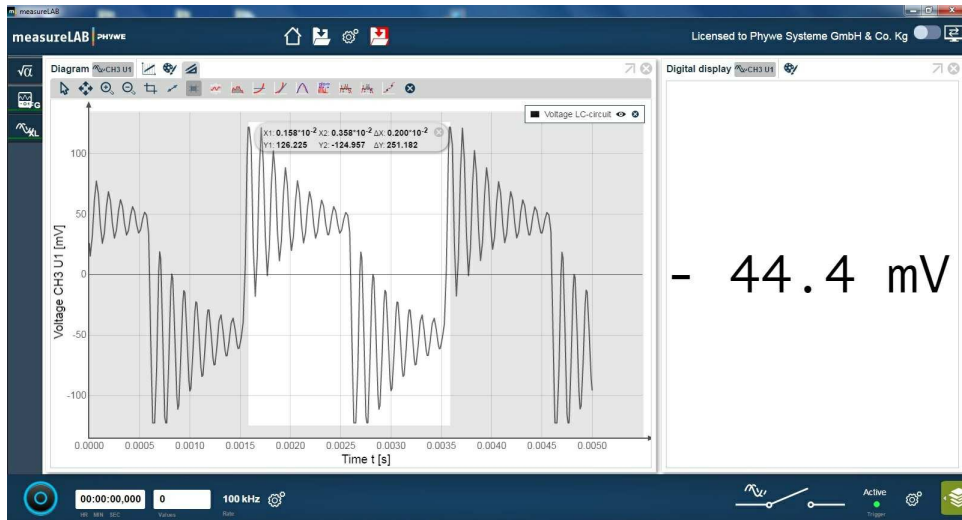

Fig. 3: Damped oscillations. The time for two damped oscillations matches the period time of the square wave signal ( $T=0.002s$ ).
- The measurement stops automatically. The result will be displayed. The time for two damped oscillations should match the period time of the square wave signal (fig. 3).